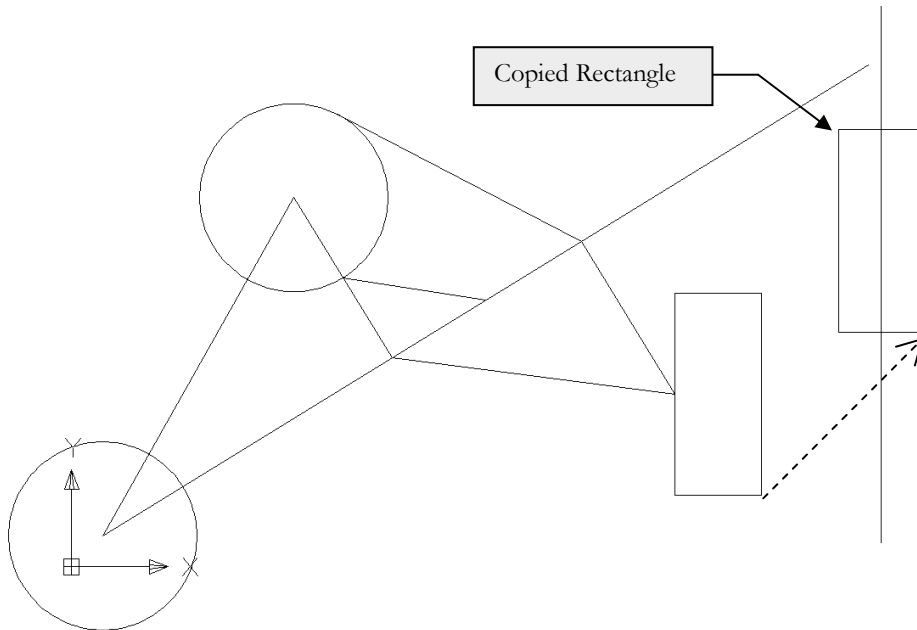

FIGURE 2-3.5 Copied rectangle. Dashed line represents the distance and angle of displacement.
14. *The following will be entered via the on-screen Dynamic Input:* Type **18**, press **Tab**; then type **45** and press **Enter**. (See Figure 2-3.5 and on-screen prompts below.)
The **Move** command works exactly like the **Copy** command except, of course, you move the entities rather than copy them. Given the similarity to the previous command covered, the **Move** command will not be covered here. You are encouraged to try it yourself. Use the **Undo** command to get back to the drawing shown in Figure 2-3.5 before proceeding if you decide to try the **Move** command.